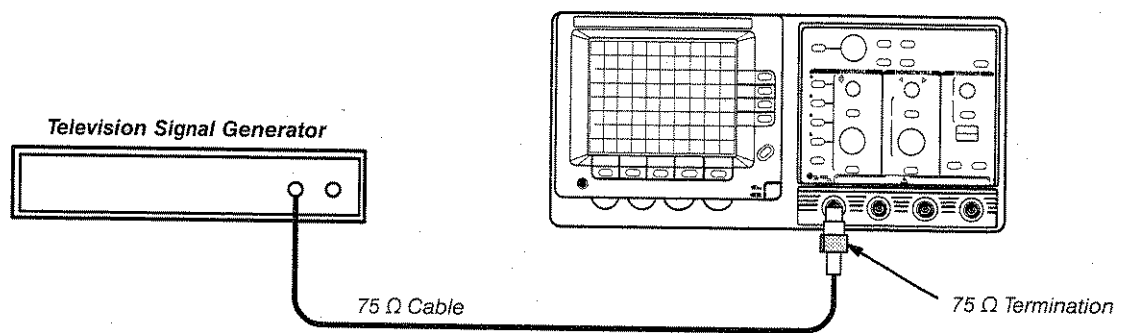

Figure 6-15: Video Trigger Test Setup
2. Connect the composite sync output of the television signal generator to the **CH 1** input as shown in Figure 6-15.